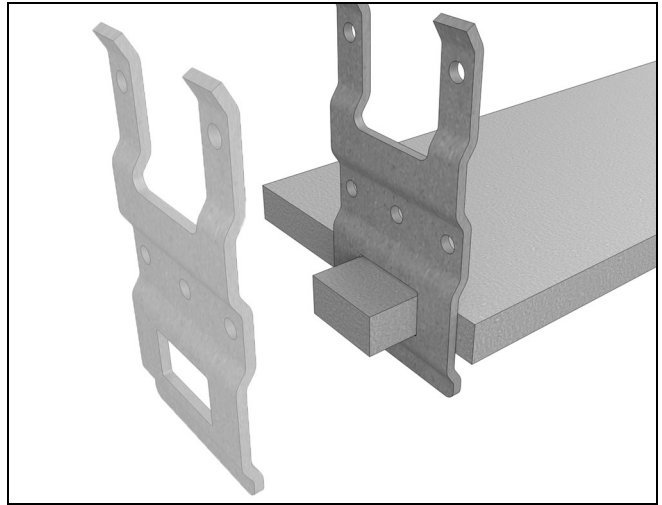

Figure 5
3. Dry-fit the mull bracket over the end of the steel to make sure the "tab" on the steel fits cleanly through the hole in the bracket. Adjust your cuts if necessary. See Figure 5.